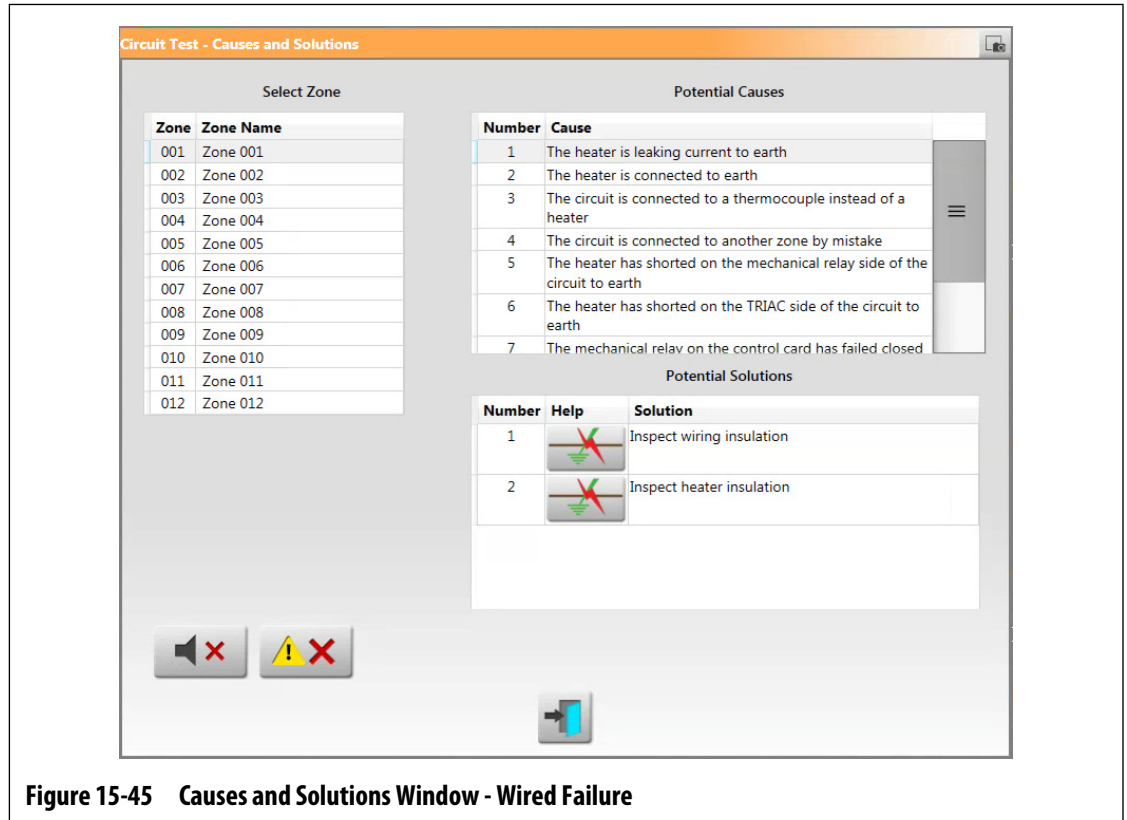
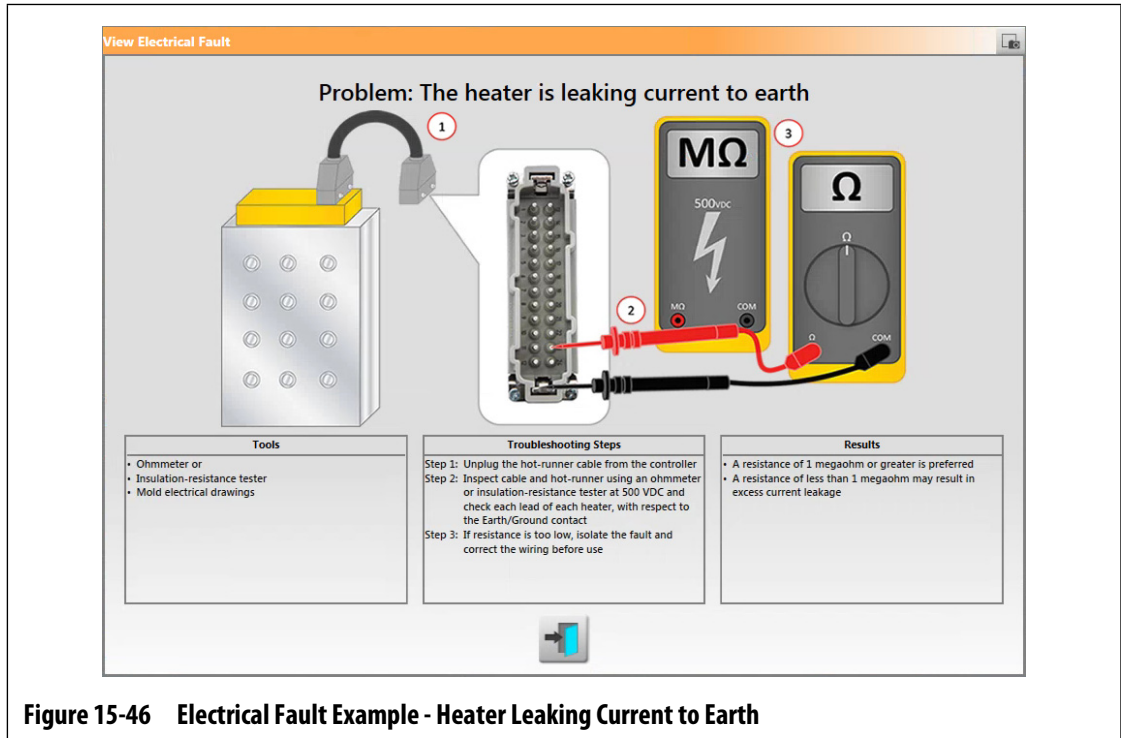

Figure 15-45 Causes and Solutions Window - Wired Failure
Figure 15-46 Electrical Fault Example - Heater Leaking Current to Earth
When the controller does a circuit test, it will stop the system and alert you if failures were detected during the test. The controller shows a window of possible causes and solutions data. Refer to Figure 15-45. This window can also be opened when you touch the **Display Failure Data** button on the System Setup screen (Heats Setup tab, Monitoring tab).
- **View Electrical Fault** - Touch this button to see a picture to help troubleshoot the failure. It also shows a list of tools to use, procedure steps, and the results you should see. The View Electrical Fault button is shown in Figure 15-45. Refer to Figure 15-46 for an example of the troubleshooting procedure window for a “Heat leaking current to earth” failure.